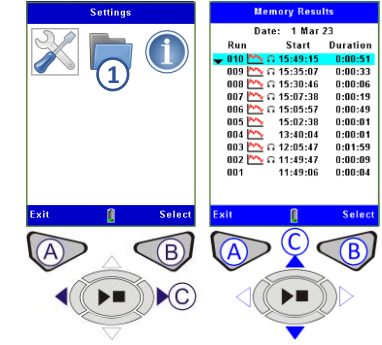

Figure 9 Memory Results
**MEMORY RESULTS (Refer to Figure 9 and 10)**
Notes can be added retrospectively by going to the Main Menu then Memory Results (1 in Figure 9), selecting an appropriate measurement run and then selecting the  icon.